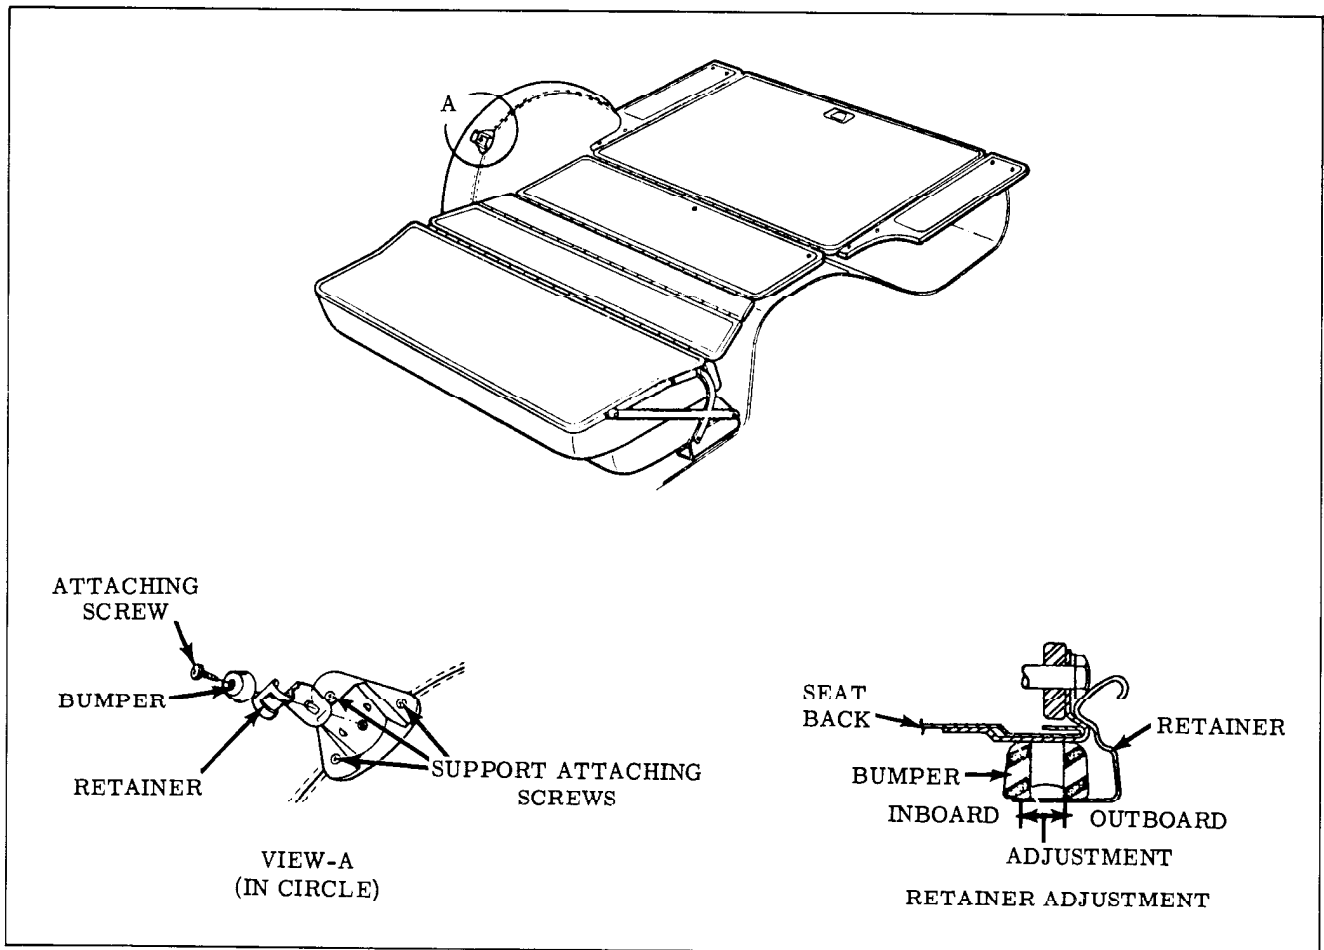

Fig. 15-71 Folding Rear Seat Back Bumper, Retainer & Support
1. With folding rear seat back in down position, remove screw shown in View "A", Fig. 15-71.
2. Remove 3 screws shown in View "A", Fig. 15-71 and remove support from wheelhouse assembly.